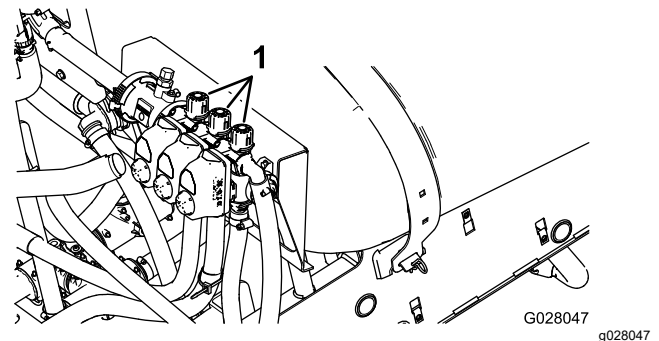

Figure 85
2. Turn off the left-section switch and adjust the left section-bypass valve (Figure 85) until the pressure reading is at the previously adjusted level (typically 2.75 bar or 40 psi).
4. Adjust the right section-bypass valve (Figure 85) until the pressure reading is at the previously adjusted level (typically 2.75 bar or 40 psi).
6. Adjust the center section-bypass valve (Figure 85) until the pressure reading is at the previously adjusted level (typically 2.75 bar or 40 psi).